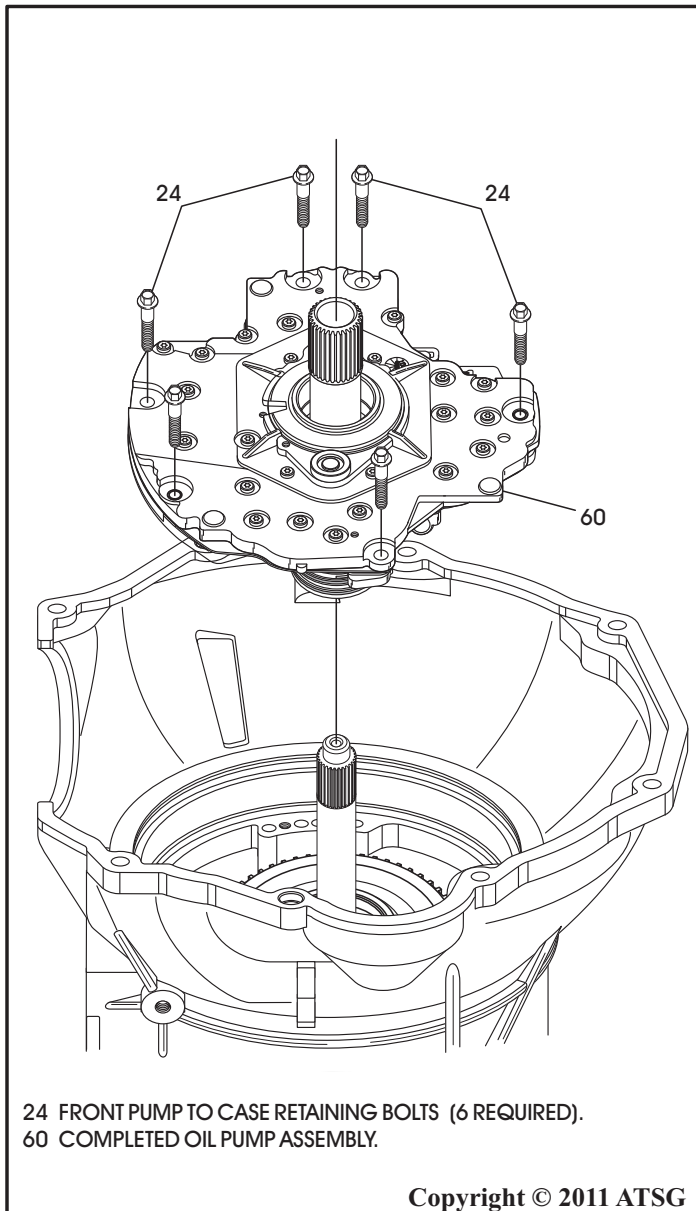

Figure 152
26. Install the completed oil pump assembly into the transmission case, as shown in Figure 152.